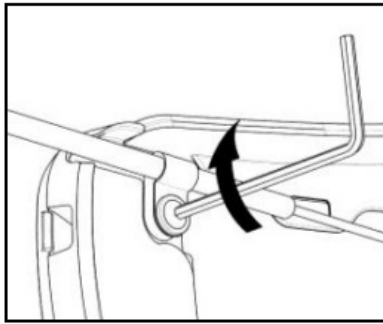
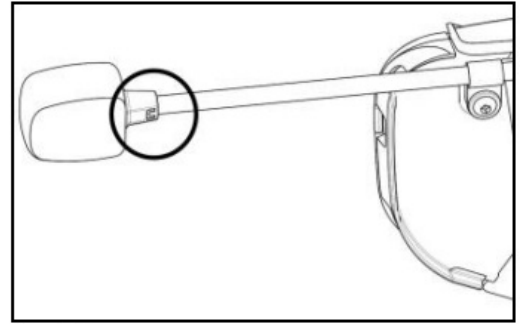

Fig. 42
Fig. 43
- Position the microphone on the left side of the helmet, screwing in the screw in the small shell frame (Fig. 42). Make sure that the side of the microphone with the caption “ON” is facing the inside of the helmet (Fig. 43).